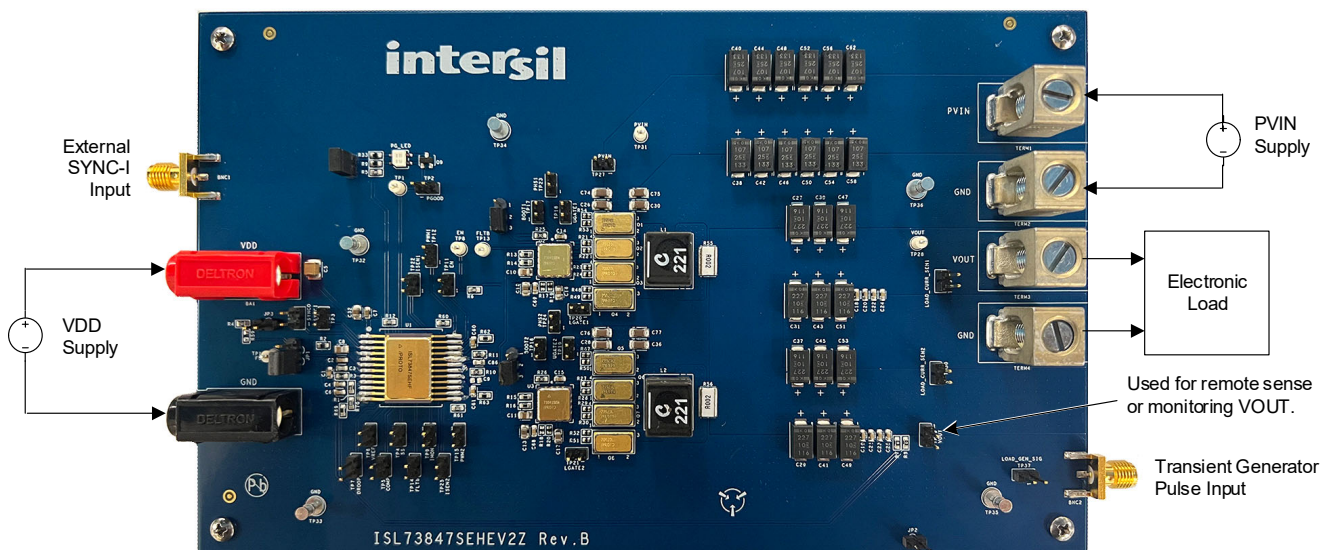

Figure 2. ISL73847SEHEV2Z Board Setup
4. Apply a 4.5V to 15V voltage to PVIN metal banana plug connectors as shown in Figure 2.
5. Apply a 4.5V to 19V voltage to the VDD banana connectors as shown in Figure 2.
6. If required, a resistor or electronic load can be connected to the VOUT metal banana plug connectors as shown in Figure 2. If using an electronic load, you can add 4w sense lines on the TP29 test jumper.